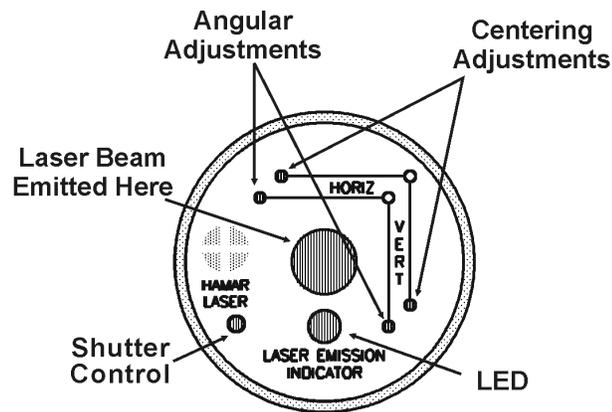

Figure 31
4. Adjust the Angular Adjustment screws on the laser (see Figure 31) until the VSlope and HSlope readings are within  $\pm 0.010$  in/ft (or 0.8 mm/m if using metric units) and click **Next** (Alt-N).